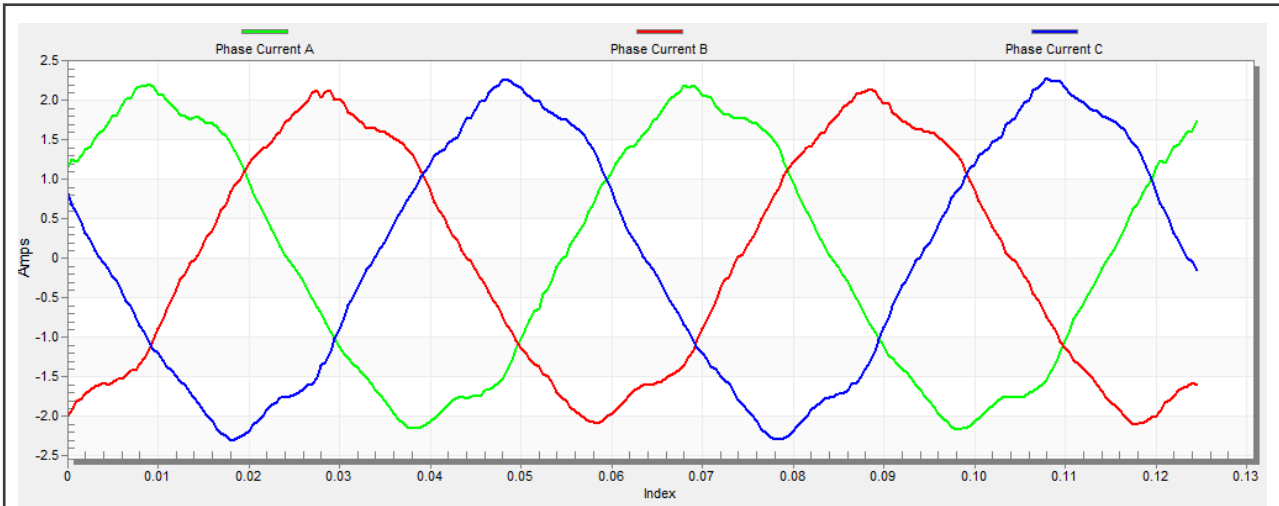

Figure 24. Phase currents
5. The optimal ratio for the V/Hz profile can be found by changing the V/Hz factor directly using the “M1 V/Hz factor” variable. The shape of the motor currents should be close to a sinusoidal shape (Figure 24). Use the following equation for calculation V/Hz factor: